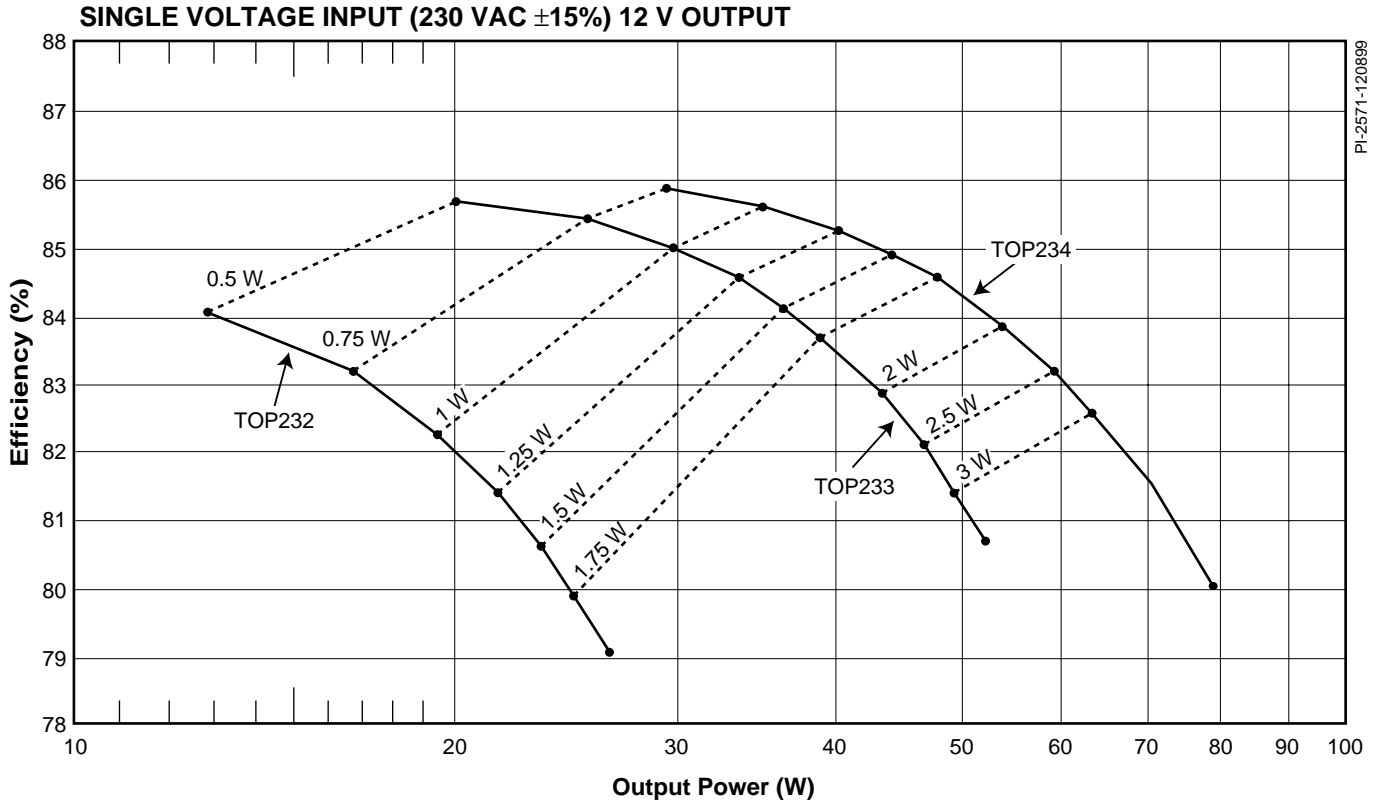

Figure 3. Efficiency vs. Output Power with Contours of Constant TOPSwitch-FX Power Loss for Single Voltage Application and 12 V Output.
- The single 230 VAC input (195 - 265 VAC) curves in Figures 3 and 4 assume a worst case of 195 VAC and an average voltage across the bulk capacitor of over 250 VDC (peak of 275 V and trough of 230 V).
TYPICAL COMPONENT PARAMETERS FOR SINGLE VOLTAGE INPUT (230 VAC ±15%) POWER SUPPLY (Figures 3 and 4)